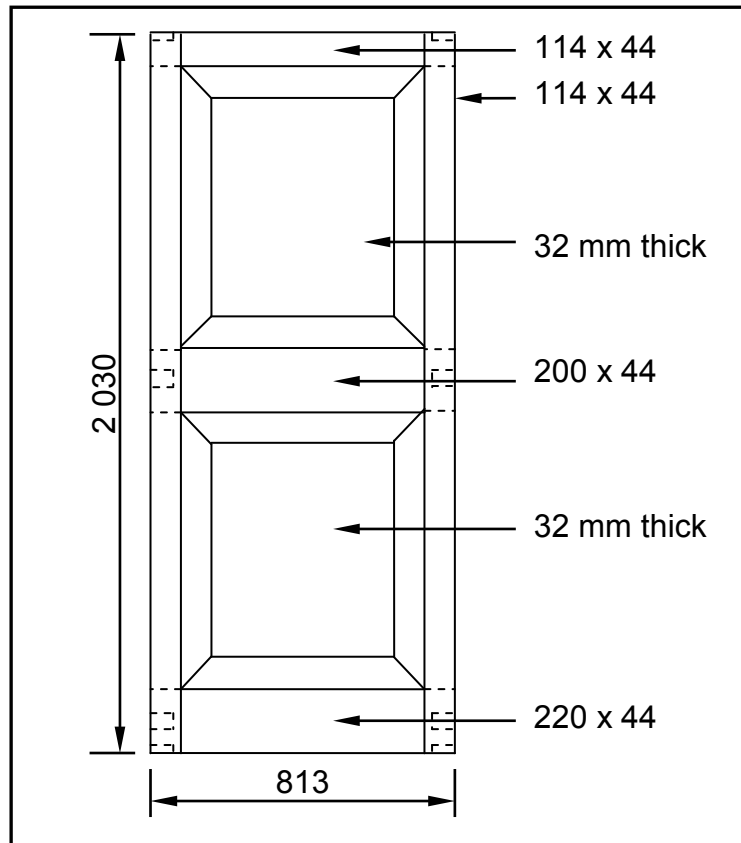

FIGURE 4.2
- (1)
4.2 FIGURE 4.2 below shows the front view of a two-panel door. Study the drawing and complete the incomplete cutting list below. Write only the answer next to the question numbers (4.2.1 to 4.2.7) in the ANSWER BOOK.